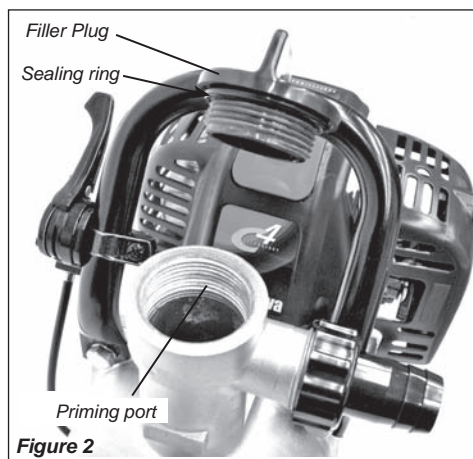

Figure 2
2. Fill the pump housing through the priming port (Figure 2) with clean water until water overflows from the filler plug hole on the pump body.